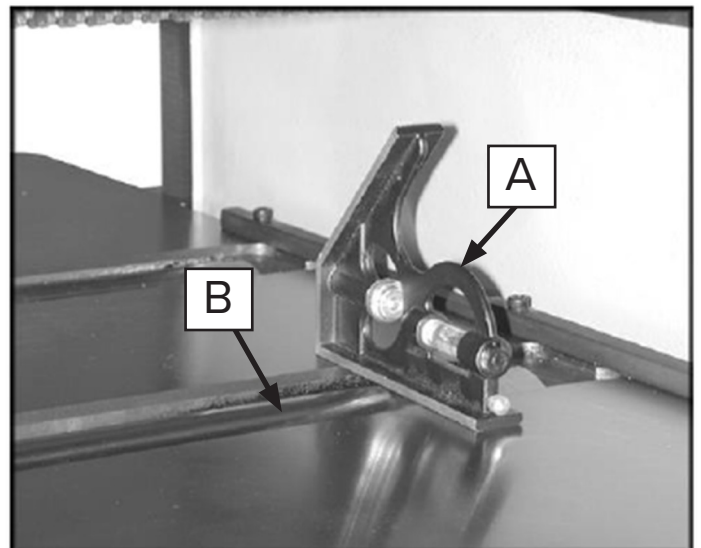

Figure 20: Adjusting the table rollers.
1. **Place a Straight Edge:** Lay a straight edge (A, Figure 20) across the roller (B, Figure 20) on the table.